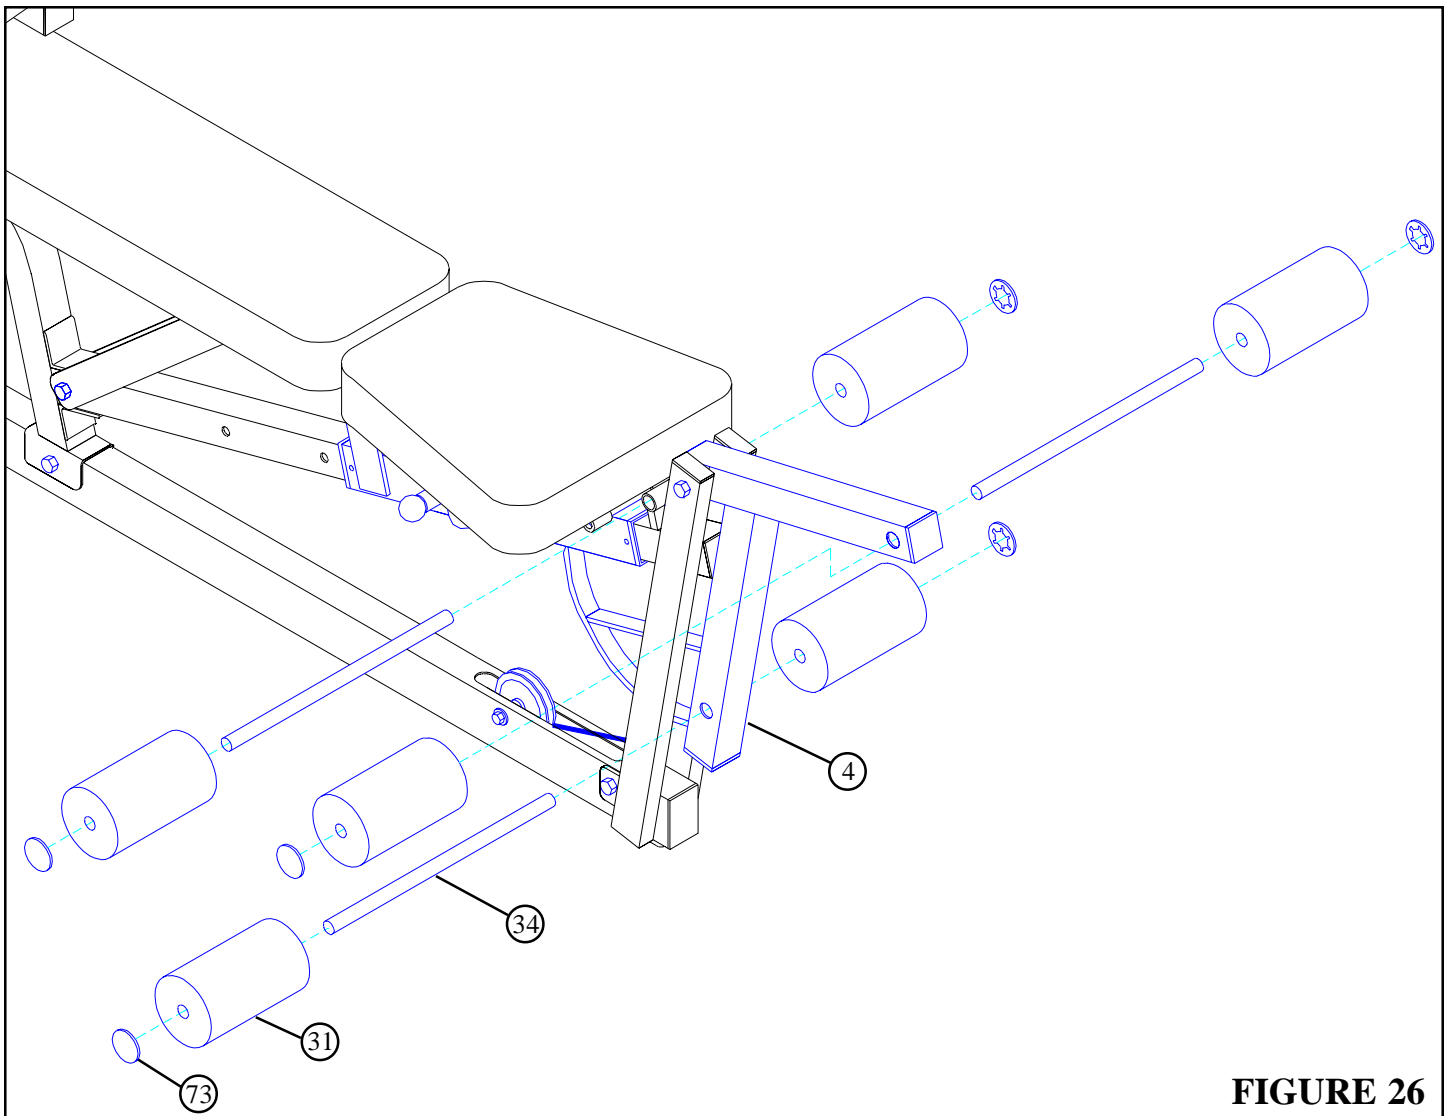

FIGURE 26
- Assemble four ROLLER PADS (31) to the LEG CURL/EXTENSION (4) as shown on FIGURE 26 using two 16" TUBES (34) and four STARLOCK COLLARS (73).
- Assemble two ROLLER PAD (31) to the bushing on the BENCH FRAME (15) as shown on FIGURE 26 using one 16" TUBE (34) and two STARLOCK COLLAR (73).